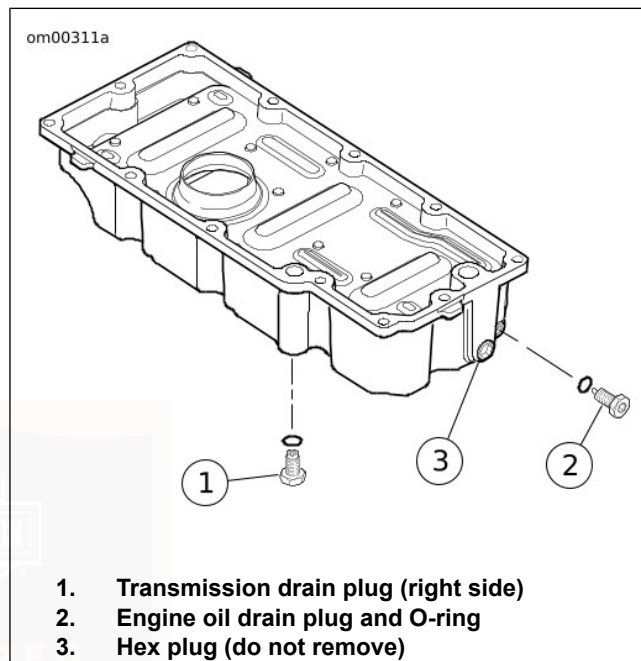

Figure 47. Oil Pan
3. See Figure 47. Remove the oil drain plug (2). Do not remove hex plug (3) or transmission drain plug (1). Allow oil to drain completely.
2. See Figure 47. Remove transmission drain plug (1) and drain lubricant into a suitable container.